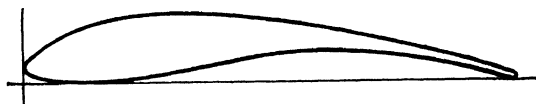

Fig. 311.—Airfoil section: N.A.C.A. 22.
53. Complete a table of data in inches to the nearest 64th for a 30-in. chord of airfoil section N.A.C.A. 22 from the data shown in Fig. 311.